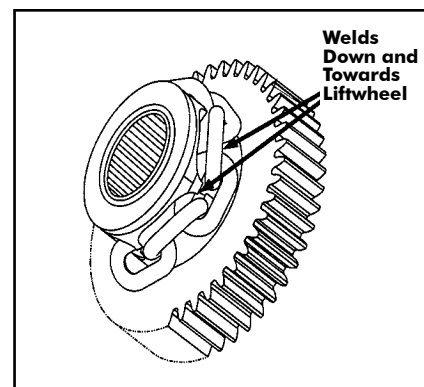

figure 12c
11. Make sure the upper hook is properly installed as shown in Figure 12C.
3. Feed a short length of soft wire through the opening in the chain guide/stripper (620-192) until it comes out of the hoist. Attach "new" chain to end of the wire which is in the centre of the hoist. Position the chain so that the welds will be down and towards the lift wheel as shown above in Figure 12C.